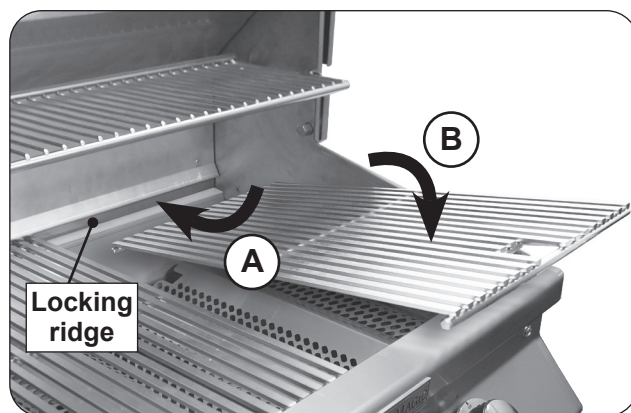

Fig. 24-3 Install cooking grids
1. Carefully place the rear of a cooking grid between the locking ridge of the rear wall (see Fig. 24-3, A). Then, carefully place the front of the cooking grid onto the front grid rest of the grill (see Fig. 24-3, B).